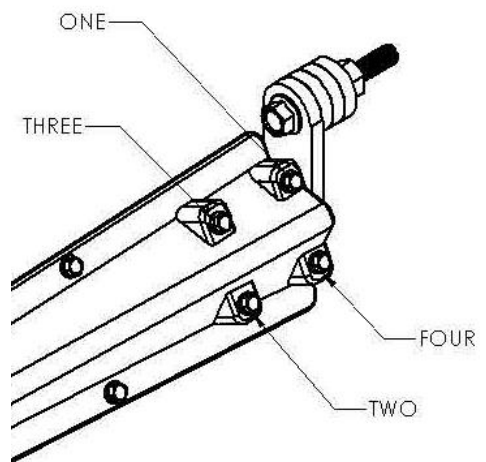

Figure 9
**TIP: Do not completely tighten one side of the backing block before moving to the other side. Alternate tightening bolts as pictured in Figure 9. Make sure to only tighten halfway and then repeat the pattern in Figure 9 until backing block is tight.**